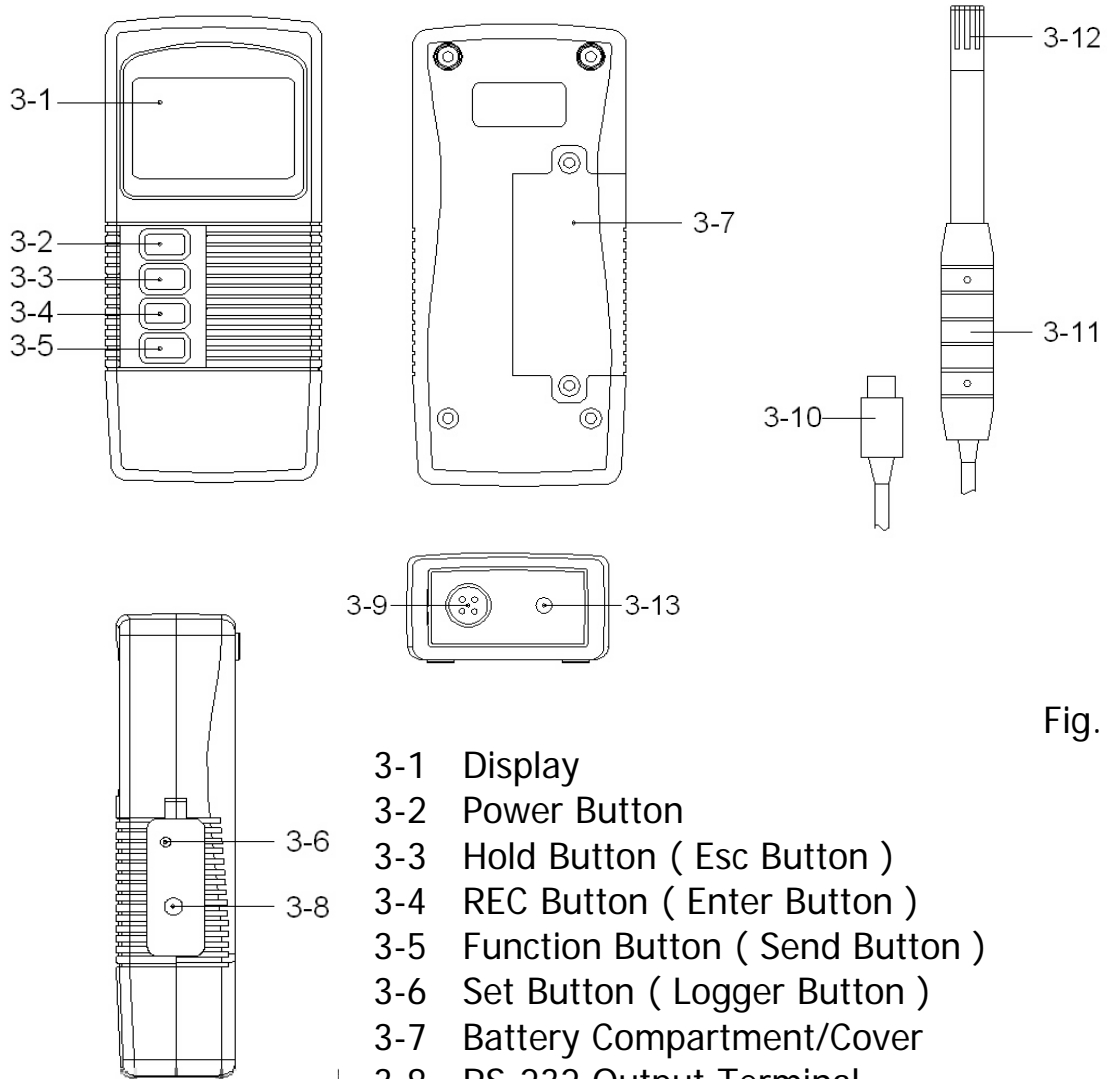

Fig. 1
- 1) Plug the " Probe Plug " ( 3-10, Fig. 1 ) into the " Probe Input Socket " ( 3-9, Fig. 1 ).
- 2) Power on the meter by pressing the " Power Button " ( 3-2, Fig. 1 ), the LCD shows the unit " %RH " & " °C " at the same time and measured value will show on the display ( upper display is Humidity value, the lower display is the temperature value ) .
The procedures of " Dew point measurement " are same as the above " 4-1 Humidity and Temperature measurement " except select the " Dew point " function by pressing the " Function Button " ( 3-5, Fig. 1 ) once, the LCD will show the unit " DEW " & " °C ( or °F ) . The upper display show the Dew point value, the lower display show the temperature value.
During the measurement, press the " Hold Button " ( 3-3, Fig. 1 ) once will hold the measured value & the LCD will display a " HOLD " symbol.
- \* The data record function records the maximum and minimum readings. Press the " REC Button " ( 3-4, Fig. 1 ) once to start the Data Record function and there will be a " REC. " symbol on the display.
- a) Press the " REC Button " ( 3-4, Fig. 1 ) once, the " REC. MAX. " symbol along with the maximum value will appear on the display.
If intend to delete the maximum value, just press the " Hold Button " ( 3-3, Fig. 1 ) once, then the display will show the " REC. " symbol only & execute the memory function continuously.
- b) Press the " REC Button " ( 3-4, Fig. 1 ) again, the " REC. MIN. " symbol along with the minimum value will appear on the display.
If intend to delete the minimum value, just press the " Hold Button " ( 3-3, Fig. 1 ) once, then the display will show the " REC. " symbol only & execute the memory function continuously.
- a. Hold the " Set Button " ( 3-6, Fig. 1 ) at least two seconds until the lower display show " C0de ", then release the " Set Button ", the upper display will show " 1000 ".
After display show " C0de 1000 ", push the " Enter Button " ( 3-4, Fig. 1 ) once will go to the following b. procedures.
\* If push the " ESC Button " ( 3-3, Fig. 1 ) will escape the selecting function and return to the normal measuring display.
- b. One by one to press the " Set Button " ( 3-6, Fig. 1 ) once a while to select the two main function that show on the lower display as :
Use the " Set Button " to select the main function to " °F ", then one by one to press the " Function Button " ( 3-5, Fig. 1 ) a while will determine the default Temp. unit to °C or °F
After the function is determined, press the " Enter Button " ( 3-4, Fig. 1 ) to confirm and save the selection data into memory IC permanently. Press the " Esc Button " ( 3-3, Fig. 1 ) will revert to normal display screen.
Use the " Set Button " to select the main function to " OFF ", then one by one to press the " Function Button " ( 3-5, Fig. 1 ) a while will determine the default the power management system is Auto Power Off enable or disable.
After the function is determined, press the " Enter Button " ( 3-4, Fig. 1 ) to save the selection function into memory IC permanently. Press the " Esc Button " ( 3-3. Fig. 1 ) will revert to normal display screen.
The instrument has RS232 PC serial interface via a 3.5 mm terminal ( 3-8, Fig. 1 ).
- 2) Slide the " Battery Cover " ( 3-7, Fig. 1 ) away from the instrument and remove the battery.